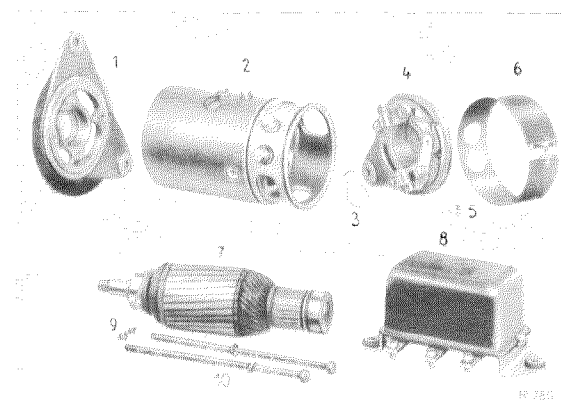

Figure 15-13/1
5. Unscrew the fixing screw (5) of the exciter coil at the brush holder.
6. Remove the commutator bearing bracket (4).
8. If the ball-bearings must be replaced, press the armature out of the drive end of the drive bearing bracket (1); use an arbor press and a suitable means of support.
9. Unscrew the two fillister head screws (9) and remove the model plate (see Figure 15-13/1).